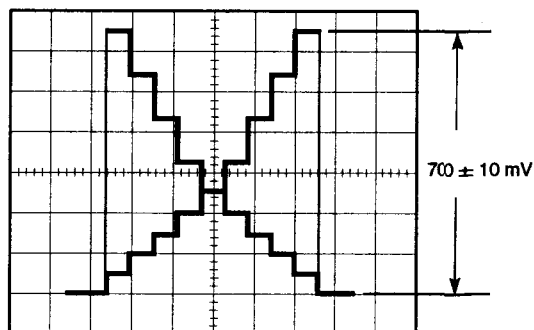

Fig. 5-1-36
- Adjust VR101 so that the Video signal level becomes  $700 \pm 10$  mV as shown in Fig. 5-1-36.
- Adjust VR201 so that the Video signal level becomes  $700 \pm 10$  mV as shown in Fig. 5-1-36.
- Adjust VR301 so that the Video signal level becomes  $700 \pm 10$  mV as shown in Fig. 5-1-36.